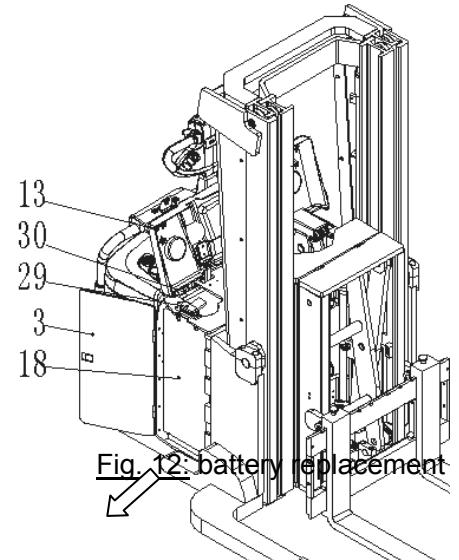

Fig. 12: battery replacement
Park the truck securely and switch off the stacker with the key (4) and activate the emergency button (6). Open the door (3) and battery cover (13) first, then remove the fixing plate (29) and remove the battery plug (30). Remove the battery (18) according to fig 12 by using a dedicated and securely parked battery exchange device. Pay attention, if this device is not secured, the battery might fall down. The installation is in the reverse order of the removal. Otherwise the truck could be damaged.